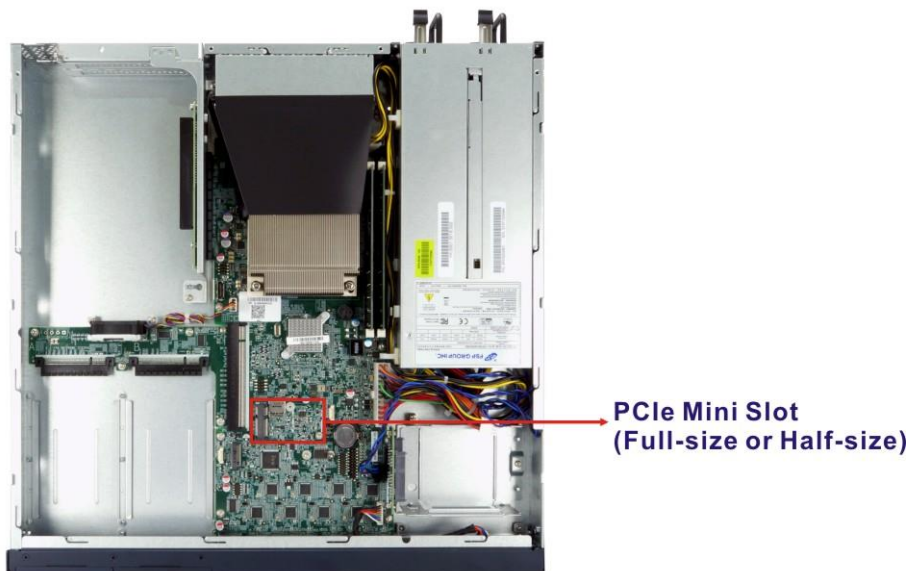

Figure 3-18: PCIe Mini Slot Location
Step 2: Locate the PCIe Mini slot on the motherboard (Figure 3-18).